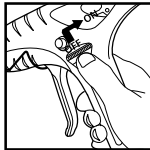

Fig.5
- Push up **Fuel Control Wheel** and turn wheel to the right. (Fig. 5)